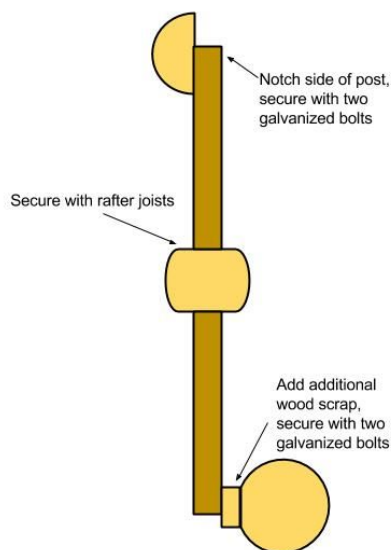

Figure 1: Various methods of mounting "T-bar" to posts depending on desired track line and error.
- 1.3. 2" x 8" boards are used to connect the posts, forming a vertical "T-bar". Make sure that the top edges of these boards are flush with the tops of the posts (Figure 1)
- 1.3.1. NOTE: since some posts will inevitably fall to the left or right of a straight track line, use notching to make corrections: if the desired line runs to the side of a post, notch the post side, or add additional pieces of wood account for error. Otherwise, cut a flat edge on the end of a post and secure the beam with a rafter joist (Figure 1).